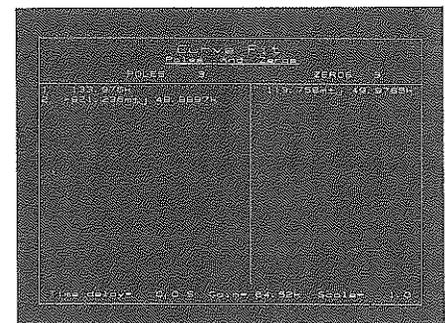

Figure 9-2
13. **View Table** Select the **EDIT TABLE** softkey to display the pole/zero table for the curve fit. The table for this example is shown in Figure 9-2.